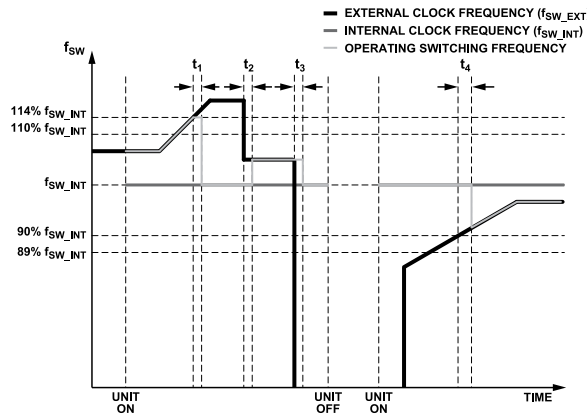

Figure 15. Synchronization Operation
2. If all periods of the most recent 64 consecutive cycles of the external clocks fall within 90% to 110% of the internal switching clock period, the ADP1050 uses the latest current cycle as the synchronization reference, and the period of the external clock is identified. This interval is t_2 or t_4 , as shown in Figure 15. Otherwise, the ADP1050 discards this cycle and looks for the next cycle (frequency capture mode).
5. If the external clock signal is lost at any time, or if the period exceeds the minimum limit (89% of the internal programmed frequency) or the maximum limit (114% of the internal programmed frequency), the ADP1050 takes the last valid external clock signal as the synchronization reference source. At the same time, the phase shift between the synchronization reference and the internal clock is detected. When the phase shift falls within the phase capture range, the PWM clock returns to the internal clock set by the internal oscillator. This interval is t_1 or t_3 , as shown in Figure 15. This is the first synchronization
Figure 15 shows the synchronization operation diagram. The internal frequency, f_{SW_INT} , is the internal free-running frequency of the ADP1050. Before the synchronization is locked, the ADP1050 runs at f_{SW_INT} . The external frequency, f_{SW_EXT} , is the frequency of the external clock to which the ADP1050 must synchronize. After synchronization is locked, the ADP1050 runs at f_{SW_EXT} .